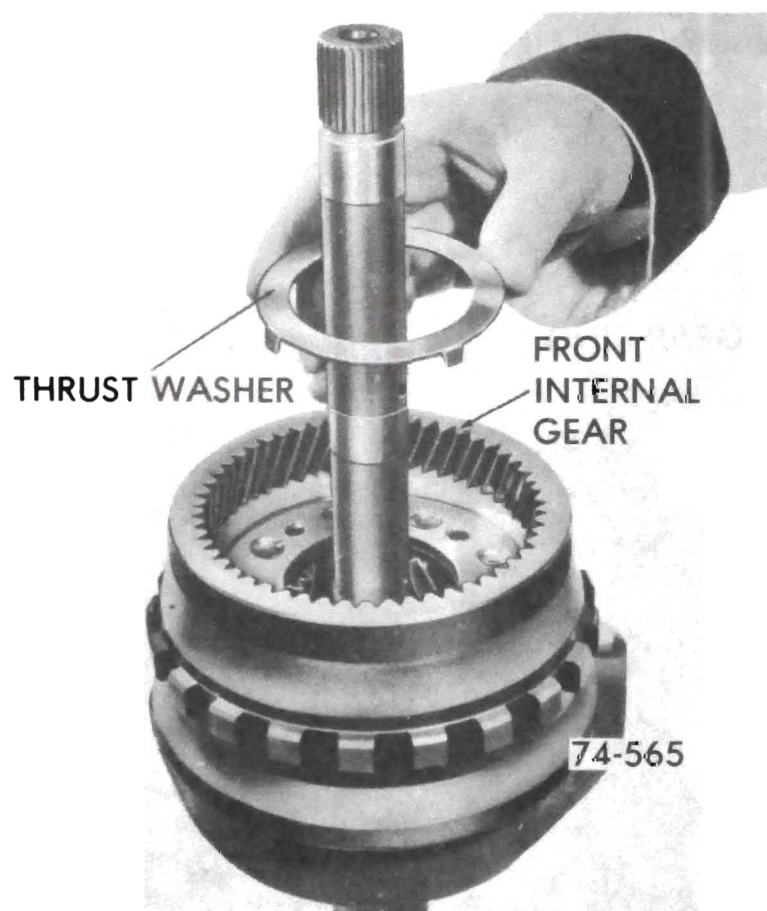

Figure 76-107
7. Remove reaction carrier to output carrier thrust washer. See Figure 76-107.